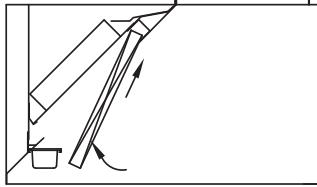

Fig. 23
5. Install the Grease-X-Tractor™ primary filters in the same manner using the front filter channel. (Fig. 23)